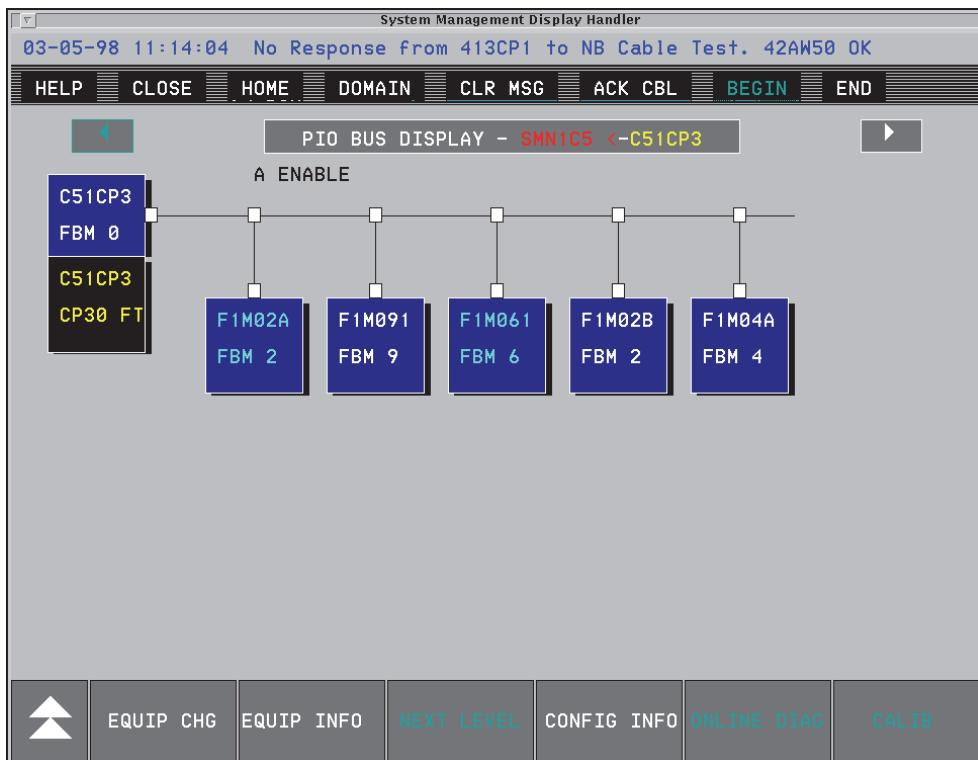

Figure 5-1. PIO Bus Display (Typical SMDH Display)
- ◆ A Fieldbus-level display (PIO Bus Display), which shows the DCS Fieldbus Module subsystem (portrayed as Fieldbus modules, FBMs) along with the host Control Processor (CP) and any other Fieldbus devices (see Figure 5-1 for SMDH display).